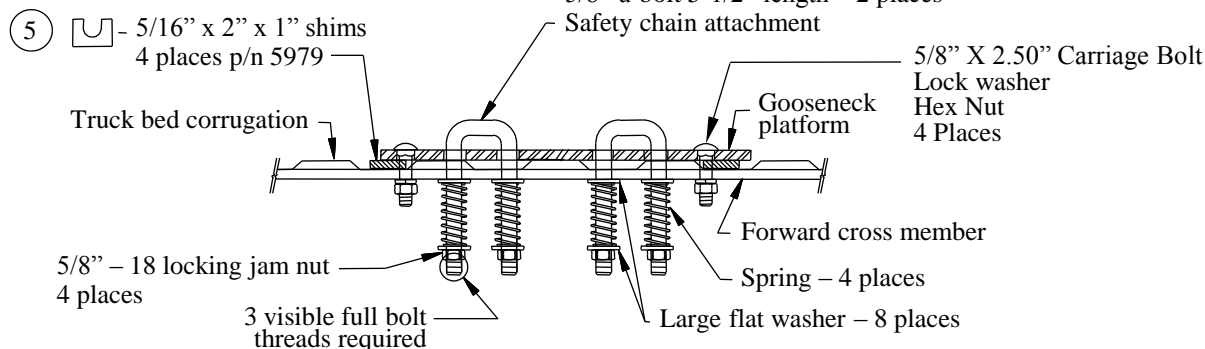

Figure 11
15. Before installing the 5/8" carriage bolts through the hitch, the U-Block shims (Part Number 5979) must be placed between the hitch and the bed and between the cross members and the bottom of the bed. These shims are necessary to prevent the bed corrugations from collapsing when the bolts are tightened (see Figure 11).
19. **For 6300 and 8339 Installations:** Install the (2) U-Bolts through the hitch and from under the vehicle install the large flat washer over the U-Bolt followed by a spring, another large flat washer and secure with a thin 5/8" jam nut. Repeat for the other legs of the U-Bolts. The 5/8" jam nuts are tightened until (3) threads are visible past the bottom of the jam nut.